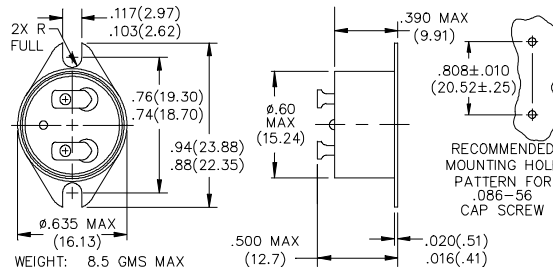

Figure 6:
- 706 = Hole-Slot Flange (See Figure 6)